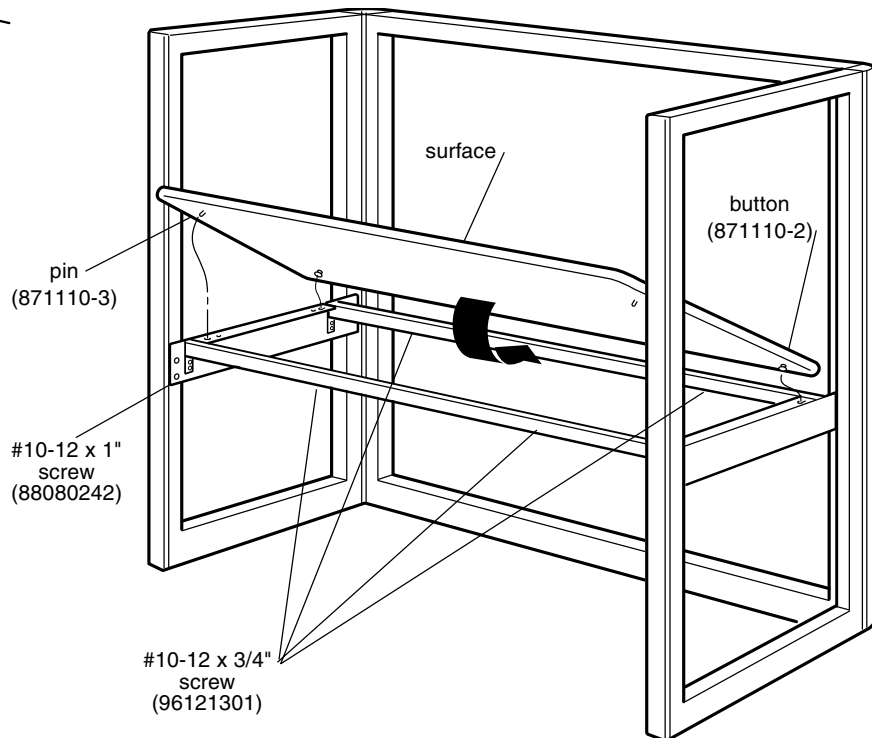

Figure 2
4. Place buttons at back of surface into large end of teardrop slot in support. Slide top back to engage. Drop surface pins into front holes of supports. Install #10-12 x 1" screws provided into underside of supports and surface to anchor top. Fasten top to Reinforcement Bar using four (4) #10-12 x 3/4" phillips pan head screws. (Figure 2)